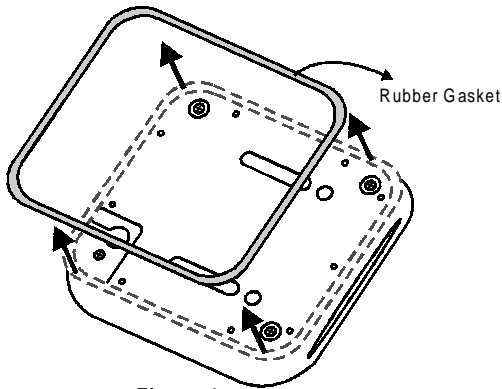

Figure 1
- 1) Lay the MMD85A down on a soft surface to avoid scratching the unit. Grasp the rubber gasket above the DVD slot and pull it off in a circular motion. (Refer figure 1)